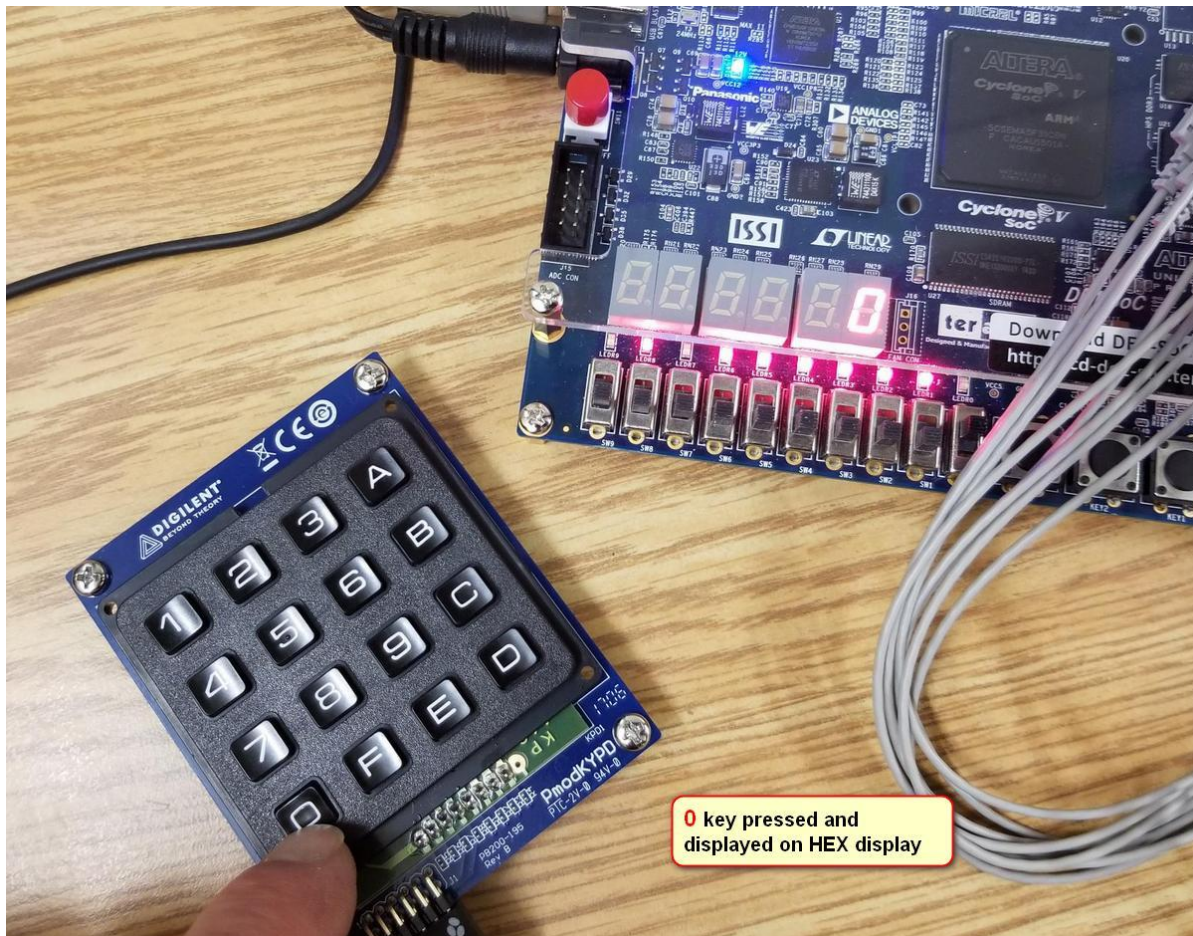

Figure 4 - When Key 0 is pressed 0 appears on HEX display of DE1-Soc
Figure 4 shows that when key 0 is pressed on the key pad, it displays 0 on the HEX display of the DE1-SOC